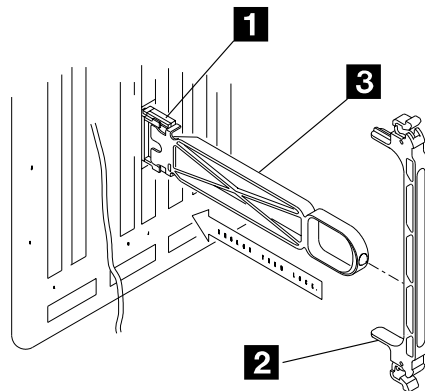

Figure 6-9. Installing a BPC1
- b. \_\_\_\_ Install extender **PN 1953093** **3** on top of the **BPC1** cards (see Figure 6-9).